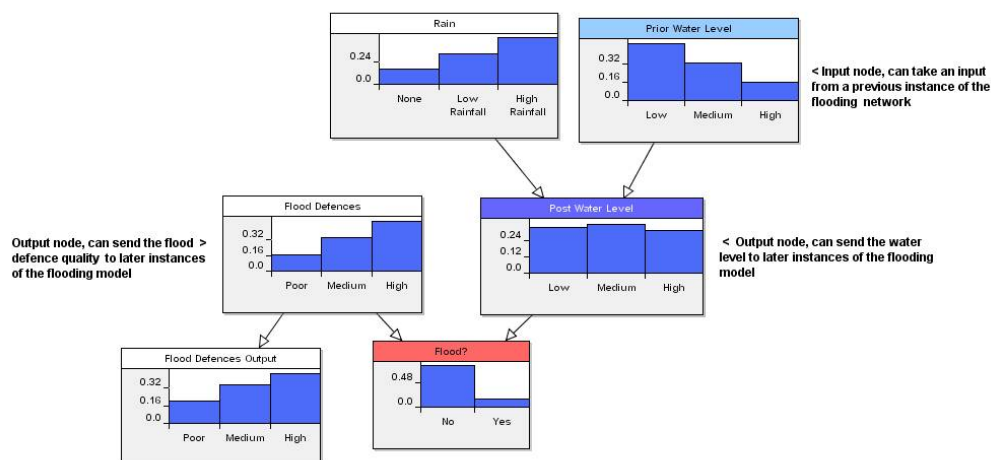

Figure 1 River Flooding model
2. Ensure that the *River Flooding* risk object is selected in the Risk Explorer. The model should look like the one in Figure 1 below.